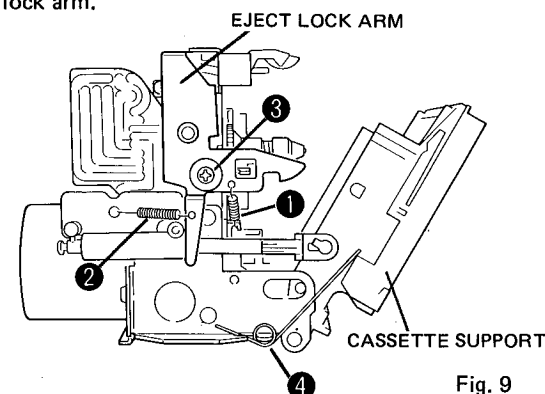
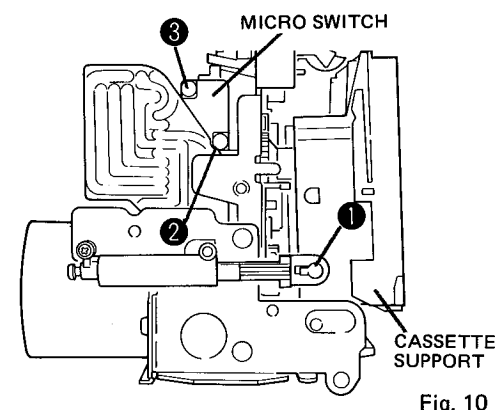

Fig. 9
Fig. 10
2. Remove the springs 1 and 2 in Fig. 9 and remove the screw 3 in Fig. 9 and then remove the eject lock arm.
3. Remove the screws 2 and 3 in Fig. 10 and then remove the micro switch.
2. Remove the spring 4 in Fig. 9 and remove the joint part of damper 1 in Fig. 10 from cassette support.